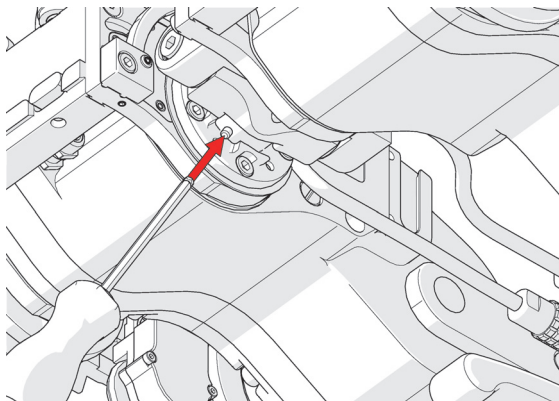
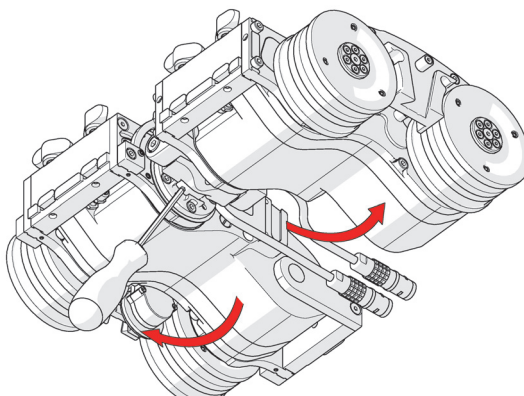

Figure 2-22 Press release pin
Figure 2-23 Press pin and rotate modules
1. Locate the release pin at the bottom of the SteerROVER scanner (see Figure 2-22 on page 64). Using the supplied 3 mm hex driver, press the pin while rotating the two modules (see Figure 2-23 on page 64).